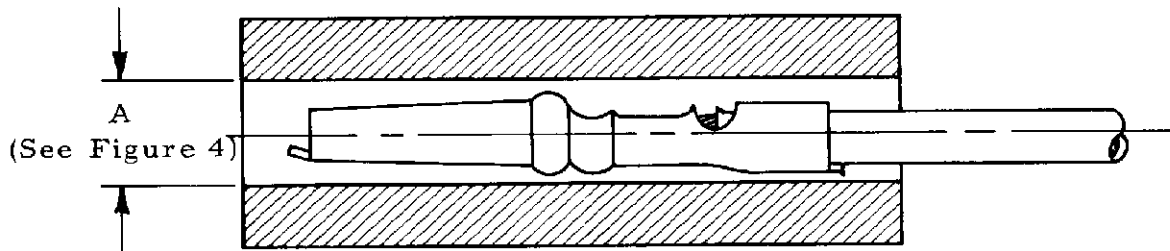

Figure 3
- A. Crimped product shall fall into an area defined by an "A" diameter tube, see Figure 4, whose length exceeds the total length of the crimped contact as indicated in Figure 3.